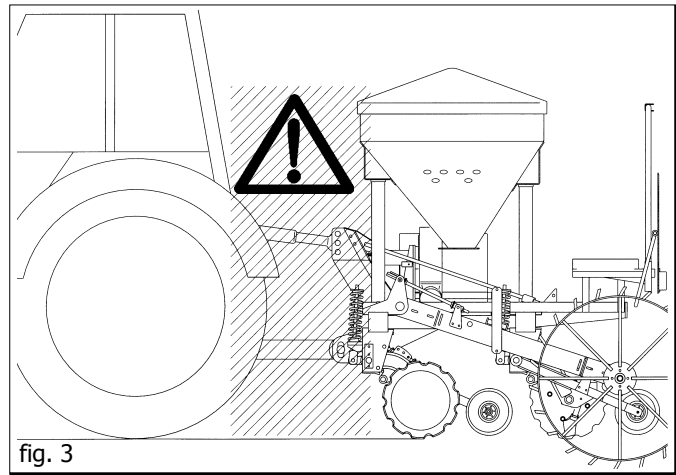

fig. 3
- 25) It is absolutely forbidden to stand between the tractor and linkage for manoeuvring the lifting controls from the outside (Fig. 3).
- 26) It is absolutely forbidden to stand in the space between the tractor and the equipment (Fig. 3) with the engine running. Enter between only after having activated the parking brake and placed a properly-sized jam or rock under the wheels to block them.